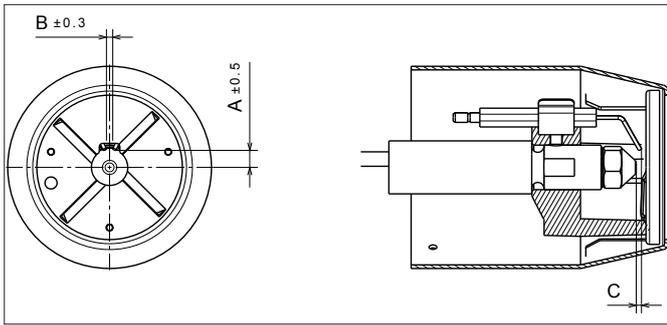

Figure 10-4: Ignition electrode settings
4. If the nozzle needs to be replaced - remove the diffuser/electrode assembly. Refer to Figure 10-4.
- Using a 4 mm Allen key, loosen the diffuser fixing screw (3) on the electrode assembly.
- Lift diffuser/electrode assembly (5) up and off the nozzle holder.
- Disconnect both ignition leads (4) from the electrodes.
7. Check/adjust electrode setting. Refer to Figure 10-4.